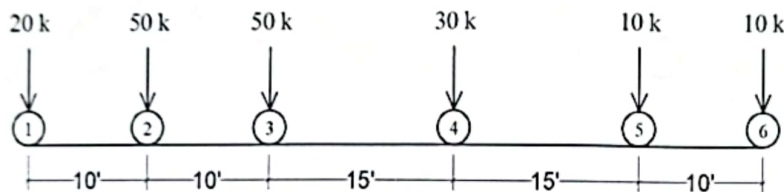

Fig. 1
| c) A set of axle load is given in Fig. 1 below. For a simply supported girder of 60 ft. span analyze the effect of the given moving load to determine the position and value of absolute maximum bending moment on it. | (25) | 3 |